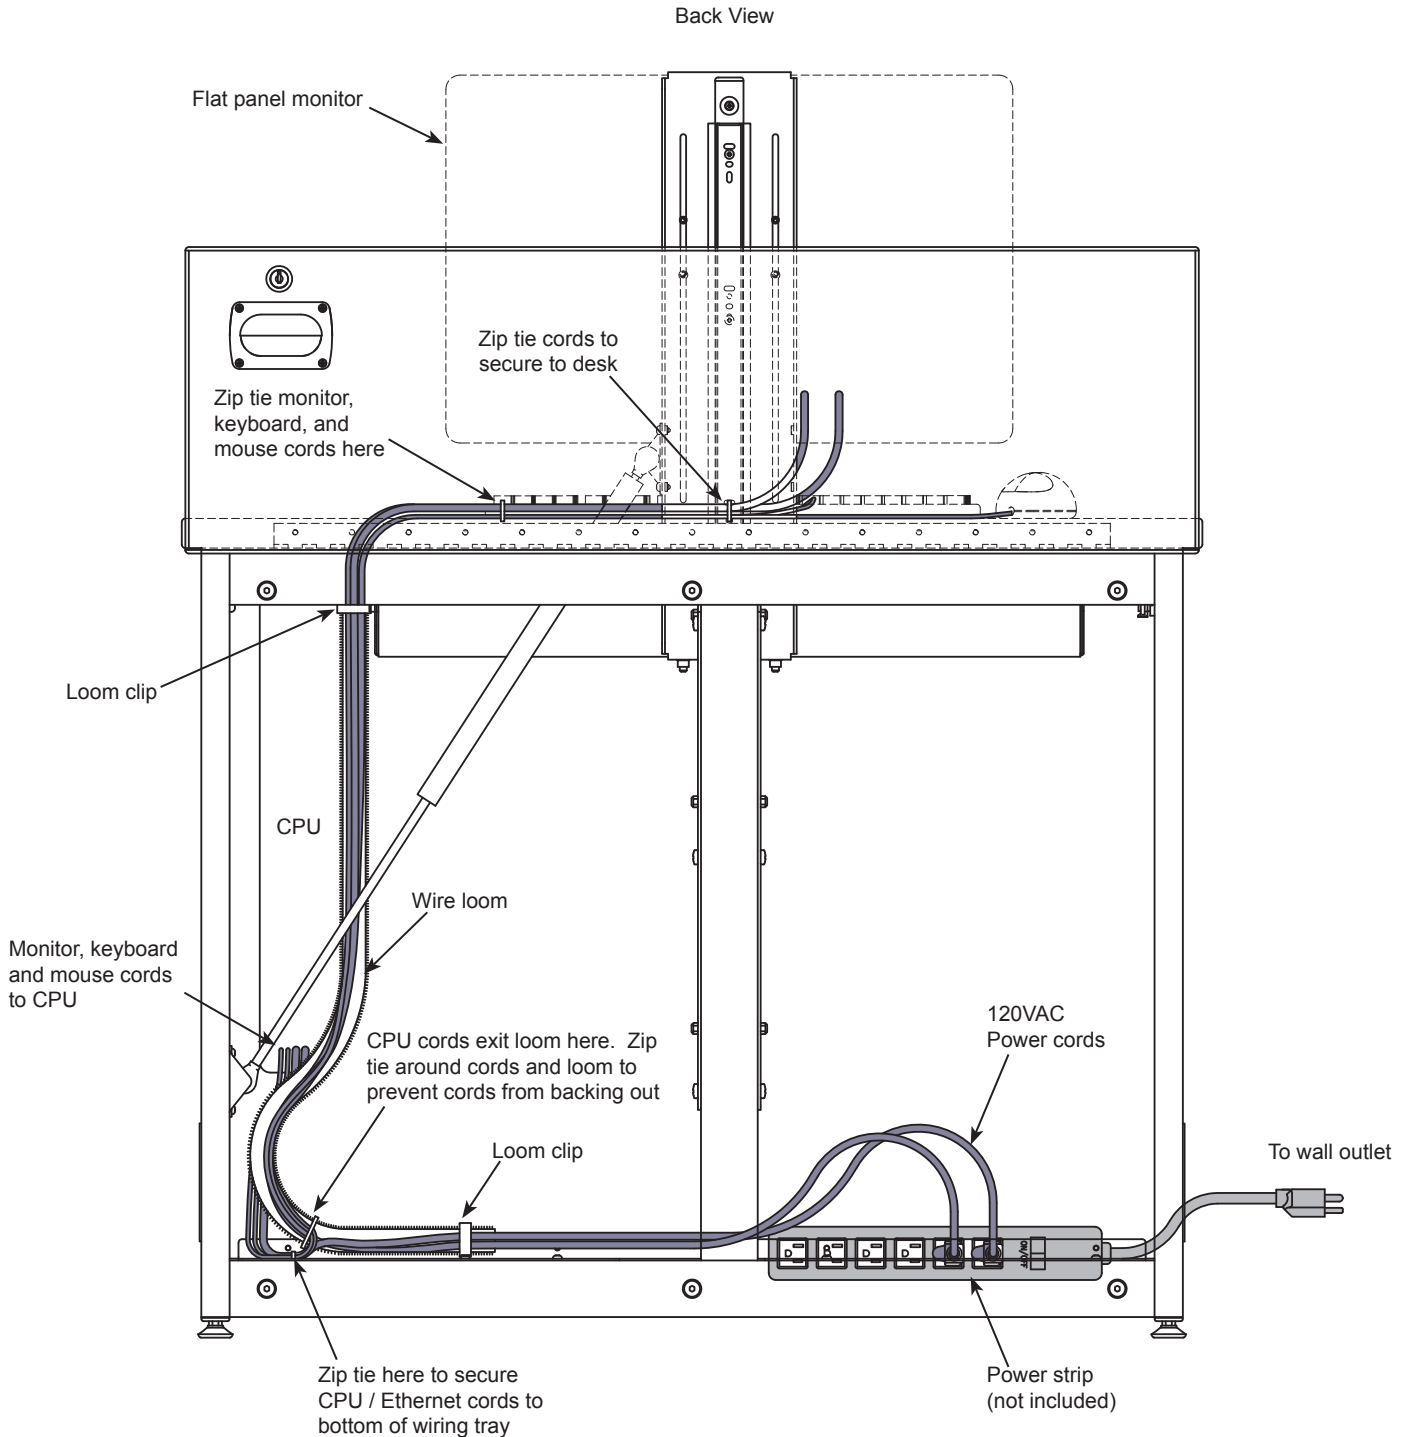

Figure 6.4
4. With the loom removed, feed the monitor, keyboard, and mouse cords through the sliced opening of the loom to the bottom of the desk as shown. **Figure 6.4.**
7. Secure the CPU cords to the bottom of the loom by attaching a zip tie around the loom directly above where the CPU cords exit the loom. This will prevent the cords from backing out. **Figure 6.4.**